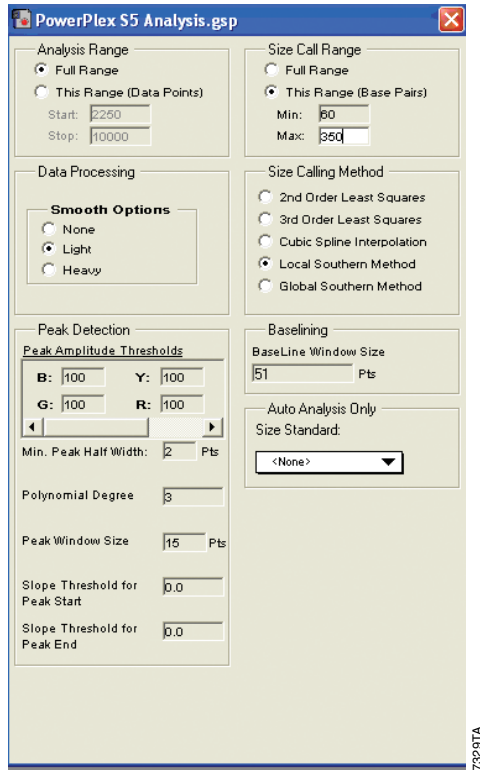

Figure 6. The analysis parameters window. The start point of the analysis range, which will vary, is defined in Section 6.C or 6.D, Step 2.
3. The recommended analysis parameters are shown in Figure 6.